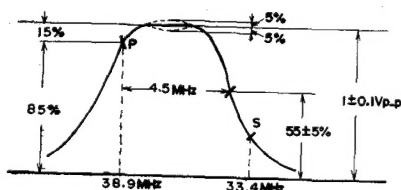

Figure 9
4. Adjust coils (L205 and L206) to obtain the waveform shown in figure 9.